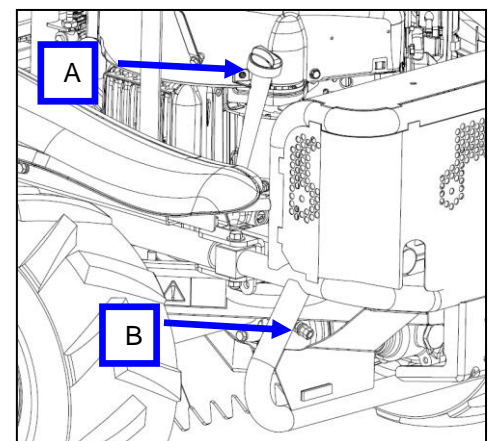

Figure 32
Oil level: check by the gauge "A" (Figure 32). With the engine stopped since 5 minutes on a flat level surface, unscrew the gauge A, wipe the bottom and put it back on his location. Check the level is between upper and lower. Add engine oil if necessary. Drain oil by the plug C.
- Check for water and dust in the fuel cartridge filter (Figure 32). Replace the filter if it is dirty.